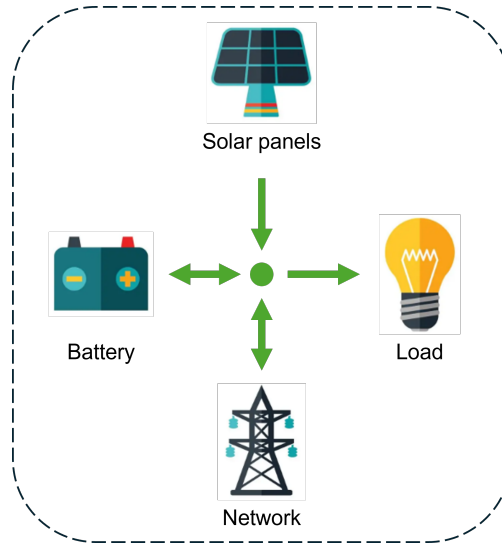

Figure 1: Microgrid configuration
A solar microgrid is a small-scale electrical grid composed of photovoltaic (PV) panels converting solar energy into electricity, a battery storing electricity, and a connection to the distribution network. A sketch of the system configuration considered is presented in Figure 1. We are interested in optimally sizing the microgrid, that is, identifying the capacity of components that minimize the total cost of the system over its lifetime, while satisfying the demand. The total cost of the microgrid is the sum of the overnight investment costs incurred when installing the various components and the operating costs incurred over the lifetime of the system. An agent designing the system faces a trade-off between building a large installation, which typically leads to high investment costs but low (variable) operating costs, and deploying a small installation, which often results in low investment costs but high (variable) operating costs.